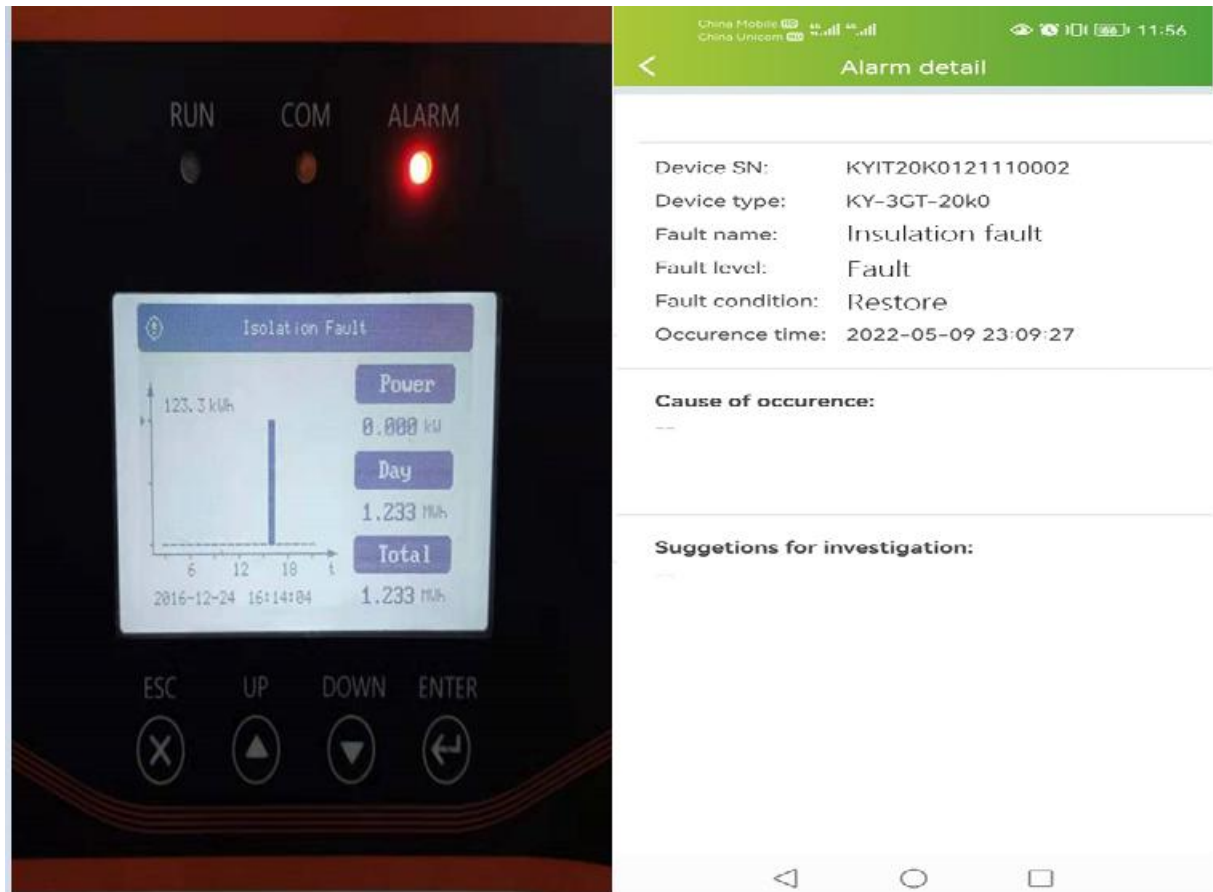

Figure 4-24
1. When the grounding fault is triggered, the screen displays "isolation fault", and the red indicator light is on. Figure 4-24 (left)
3. Phone APP remote monitoring error notification; As shown in Figure4-24 (Right)